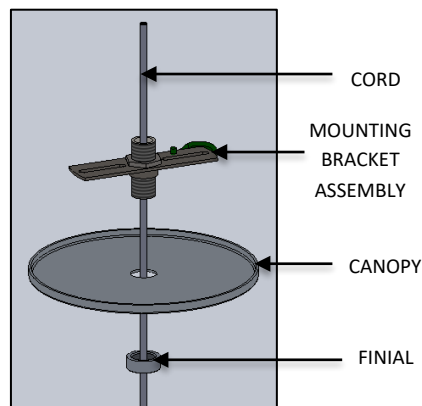

FIG. 14 – CORD INSTALLATION
3. Insert CORD into CANOPY FINIAL (THREADS UP), CANOPY, AND MOUNTING BRACKET. Adjust fixture drop to desired height as shown below in FIG. 14.